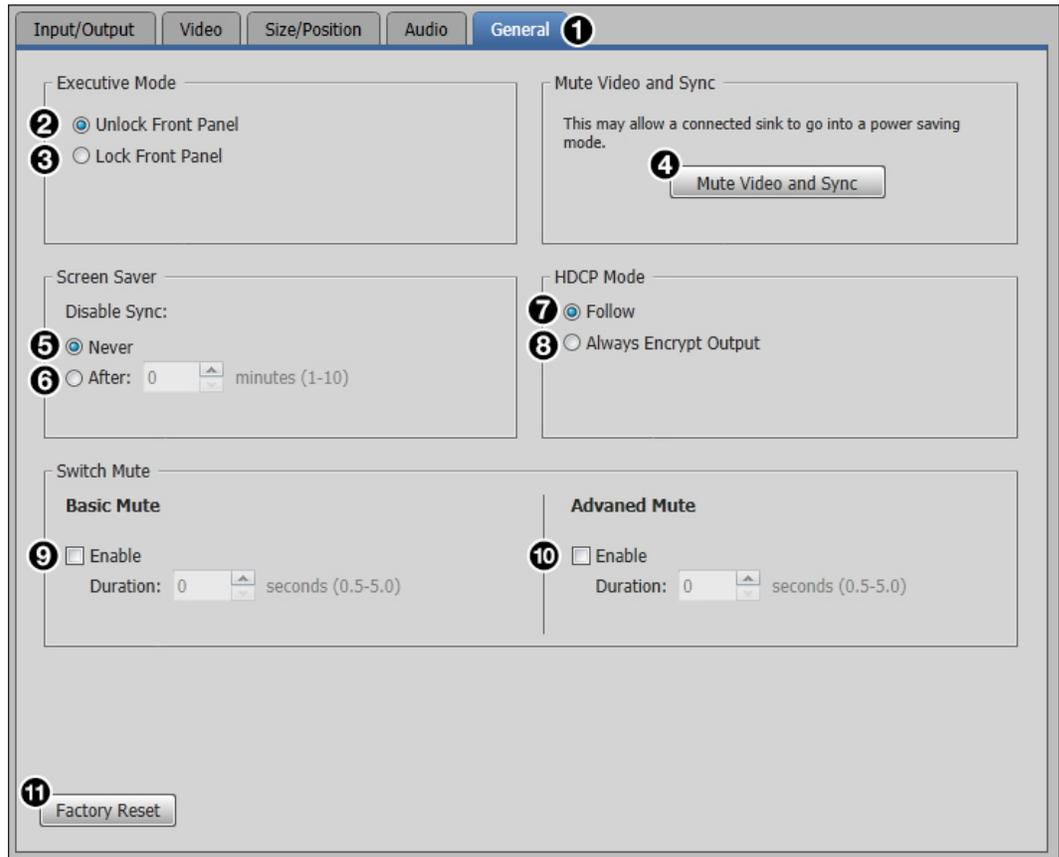

Figure 36. General Tab
Click the **General** tab (see figure 36, ①) to open the General screen. This screen contains executive mode and video and sync settings.
- 5 **Never** (see figure 36 on the previous page) — Click the **Never** radio button to disable the screen saver setting.